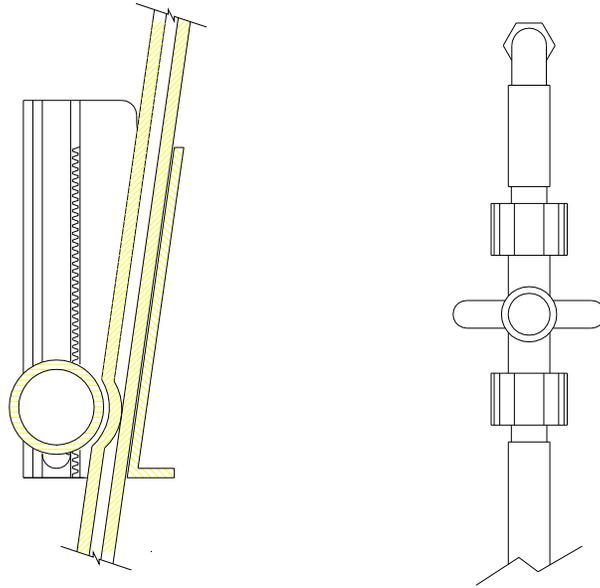

Figure 7-2
2. Close the two shut-off valves to the seventh vessel at the Media-Mate Plus dispense assembly (see figure 7-2).
1. For Six Vessels: Close the ball valve and pinch valve at vessel 7 (see figure 7-2):